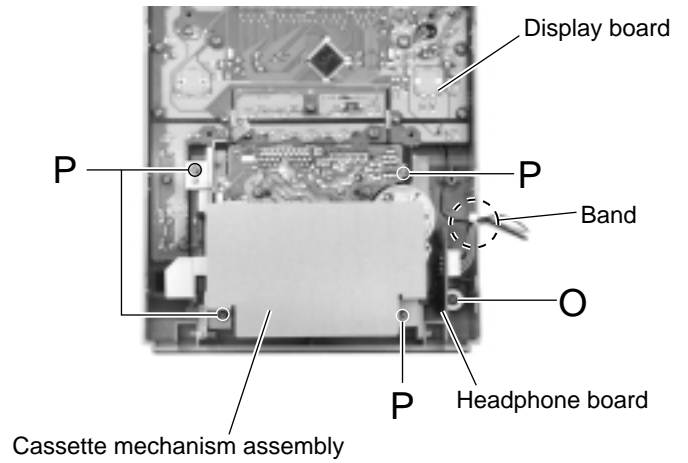

Fig.23
(See Fig.23)**
■Removing the cassette mechanism assembly (See Fig.23 and 24)